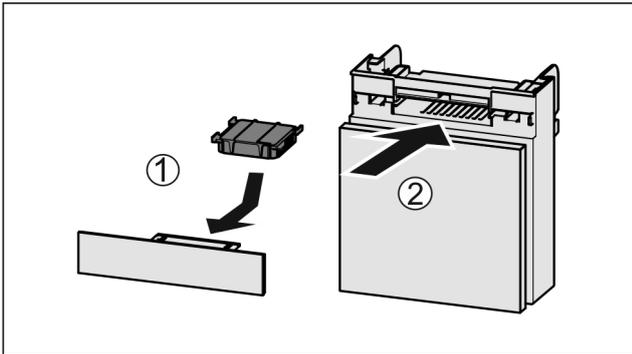

Fig. 40
- ▶ Insert the carbon filter as shown in the diagram *Fig. 40 (1)*.
- ▶ Push the compartment in *Fig. 40 (2)*.